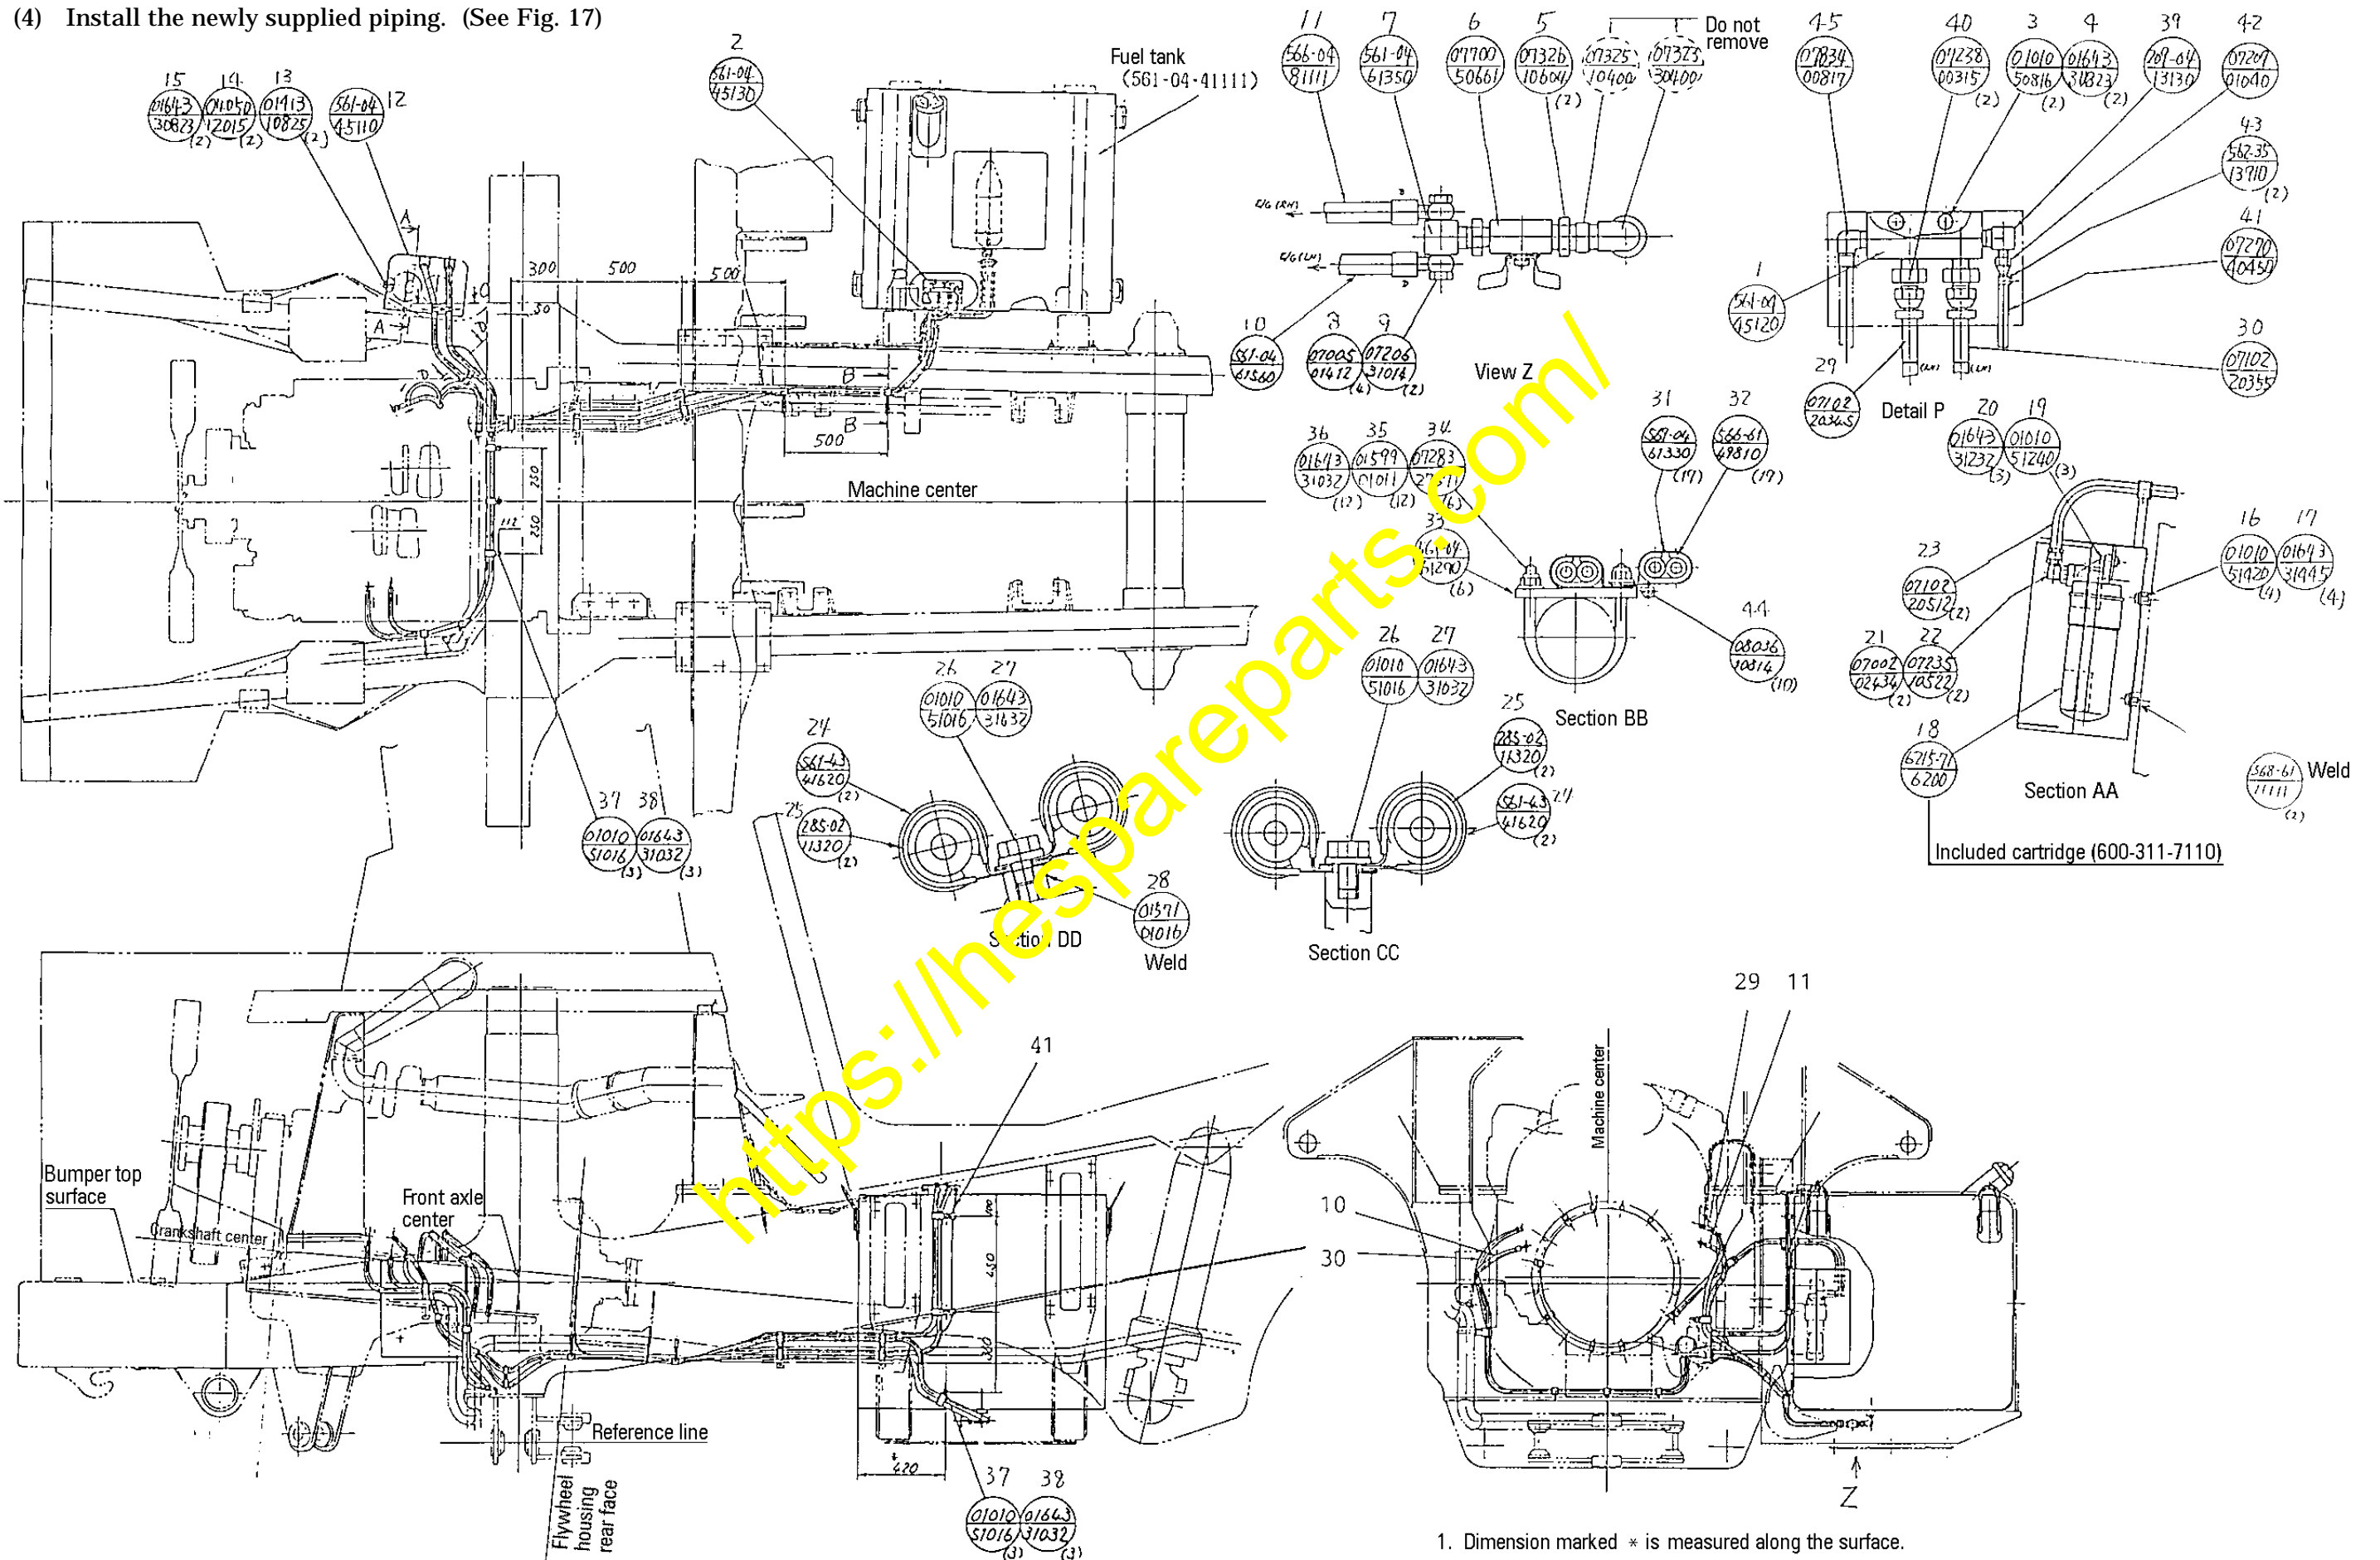

Fig. 17 Fuel Piping Assembly Drawing
(4) Install the newly supplied piping. (See Fig. 17)